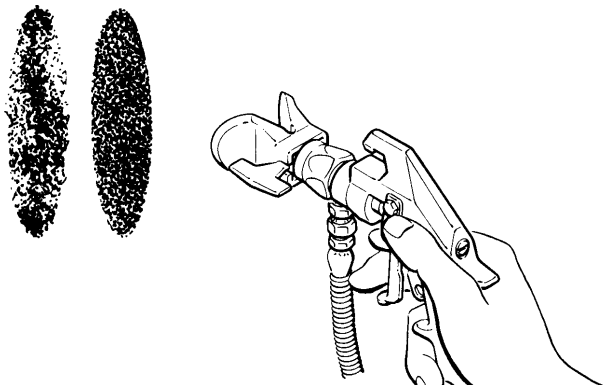

Fig 3
Adjust the pressure control knob (D) so the fluid pressure completely atomizes the spray from the gun. Always use the lowest possible pressure to get the desired results. See Fig 3.